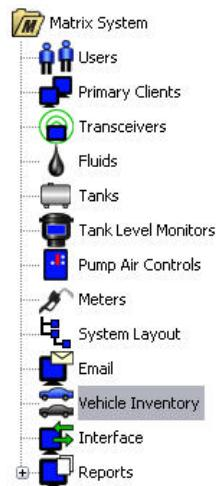

Рис. 149
- Щелкните по значку «Vehicle Inventory» [Транспортные средства] из перечня на панели системы Matrix (Рис. 149).
A screenshot of the Matrix 3.0 Total Fluid Management System 'Vehicle Inventory' screen. The interface includes a top navigation bar with the Matrix logo and GRACO logo. On the left is a navigation tree identical to Figure 149. The main area is titled 'Vehicle Inventory' and contains two large windows: 'Vehicle Groups' and 'Vehicles in Group'. Below these are 'New Group', 'Modify', and 'Delete' buttons. To the right are 'Import Vehicles' and 'Add Vehicle' buttons. At the bottom is a log table with columns: Timestamp, Event, Detail, Device, and Location. The log shows several entries related to TLM configuration and transceiver connections. A status bar at the bottom indicates 'User Logged In: matrix' and the date 'Mar 23, 2009 11:16:36 AM'.